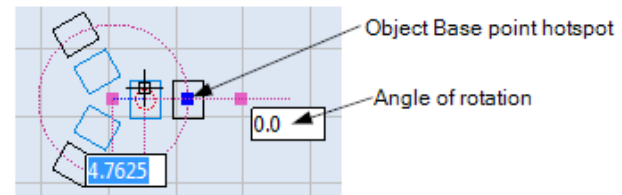

Figure 476: The Polar Array before and during the changing of the radius
1. Select the Polar Array and left-click its Object Base point hotspot. As shown in Figure 476 (below) the Object Base point hotspot will turn blue.
Note: Dragging the Object Base point hotspot may change the angle of rotation, as well as the radius, of the Polar Array. You can reset the angle of rotation of the Polar Array by typing a new value in the **Angle of rotation** field, which is shown in Figure 476 (below).